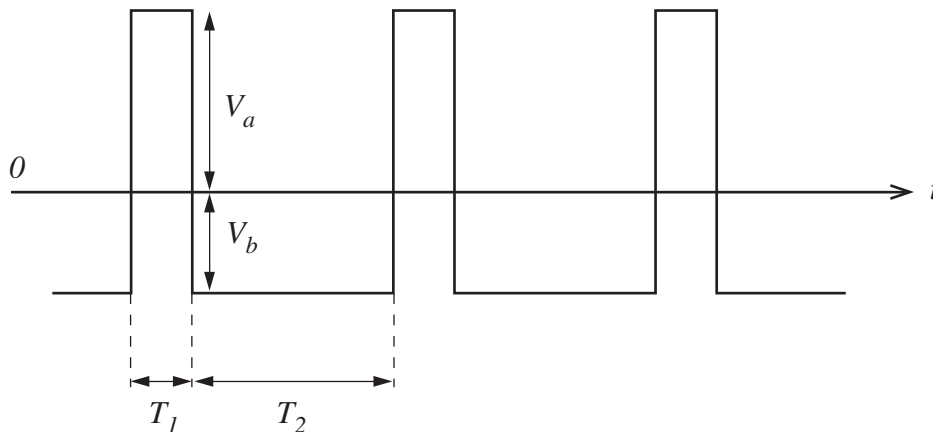

FIG. 17
8. The wave-form of FIGURE 17 below is fed to a transformer. In order to ensure that the transformer does not saturate, what is the relationship between  $V_a$ ,  $V_b$ ,  $T_1$  and  $T_2$ ?